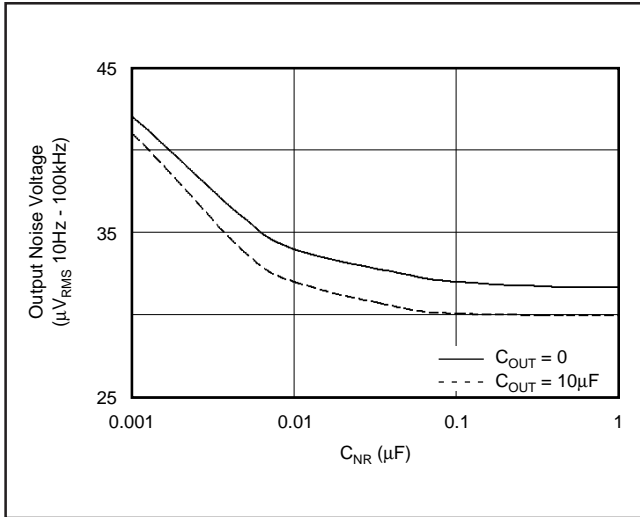
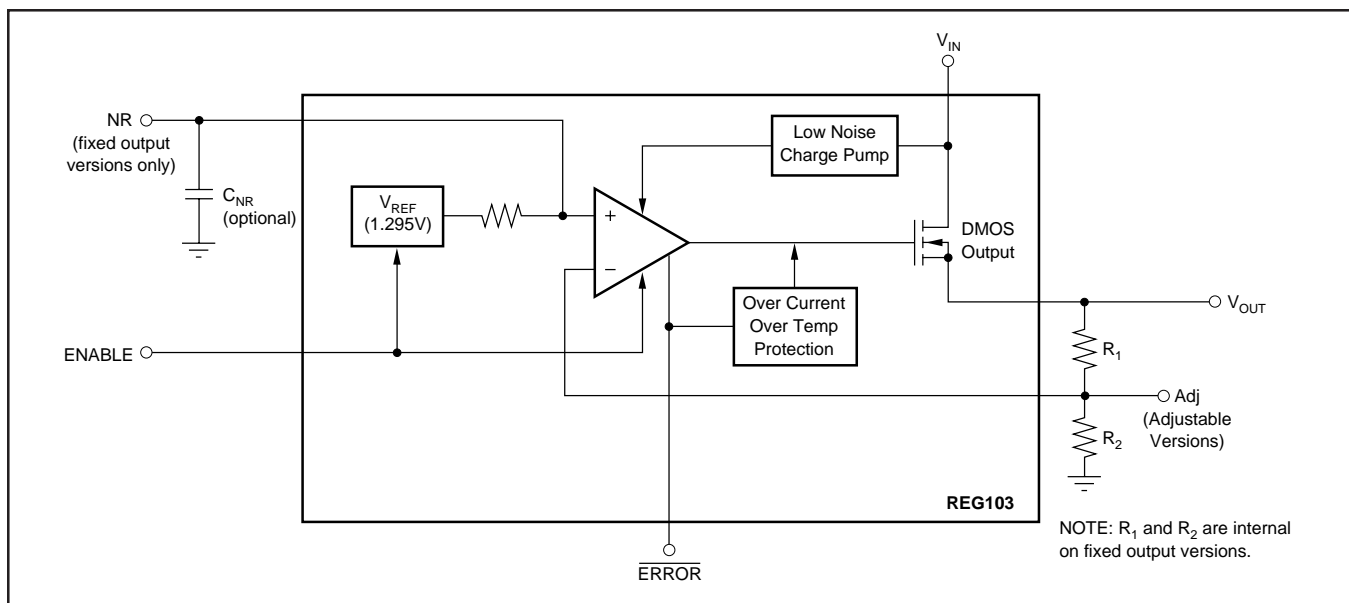

FIGURE 8. Output Noise versus Noise-Reduction Capacitor.
FIGURE 7. Block Diagram.
Connecting a capacitor, C_{NR} , from the Noise-Reduction (NR) pin to ground, can reduce the output noise voltage. Adding C_{NR} , as shown in Figure 7, forms a low-pass filter for the voltage reference. For $C_{NR} = 10nF$, the total noise in the 10Hz to 100kHz bandwidth is reduced by approximately a factor of 3.5, as shown in Figure 8.